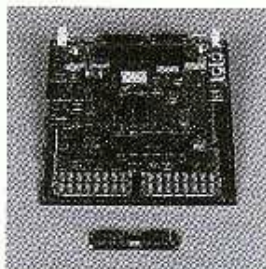

Figure 3-7
- c. Remove the Lo ROM chip (the chip on the right) from the main logic board and install it into the right connector on the Outbound's SIMM card. See Figure 3-7. Make sure you install the ROM chip with its notch to the right (as indicated on the SIMM card).
Be sure that the ROM chips are installed on the ROM SIMM card as shown in Figure 3-7. Compare the ROM chip's part numbers in Table 3-1 to your installation. As a general rule, within a pair of ROM chips, the chip with the lower part number is the Hi ROM; the chip with the higher part number is the Lo ROM.